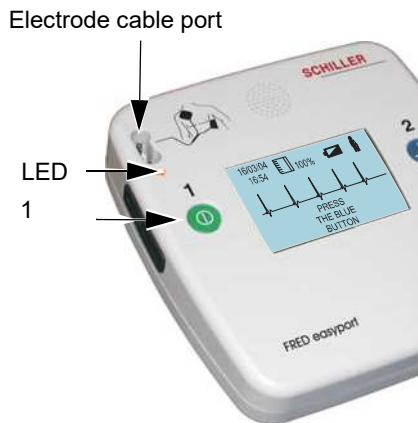

Fig. 4.5 Switch unit on
1. Switch the device on by pressing the green button (1).
4. Connect the electrode cable to the device (see Fig. 4.5).
1. Connect the electrode cable to the device (see Fig. 4.5).
2. Switch the device on by pressing the green button (1).
3. Simultaneously press the blue (2) and the orange (3) buttons. The message "CONFIRM MANUAL MODE" is displayed.
4. Within 5 seconds, again press the blue (2) and the orange buttons (3).